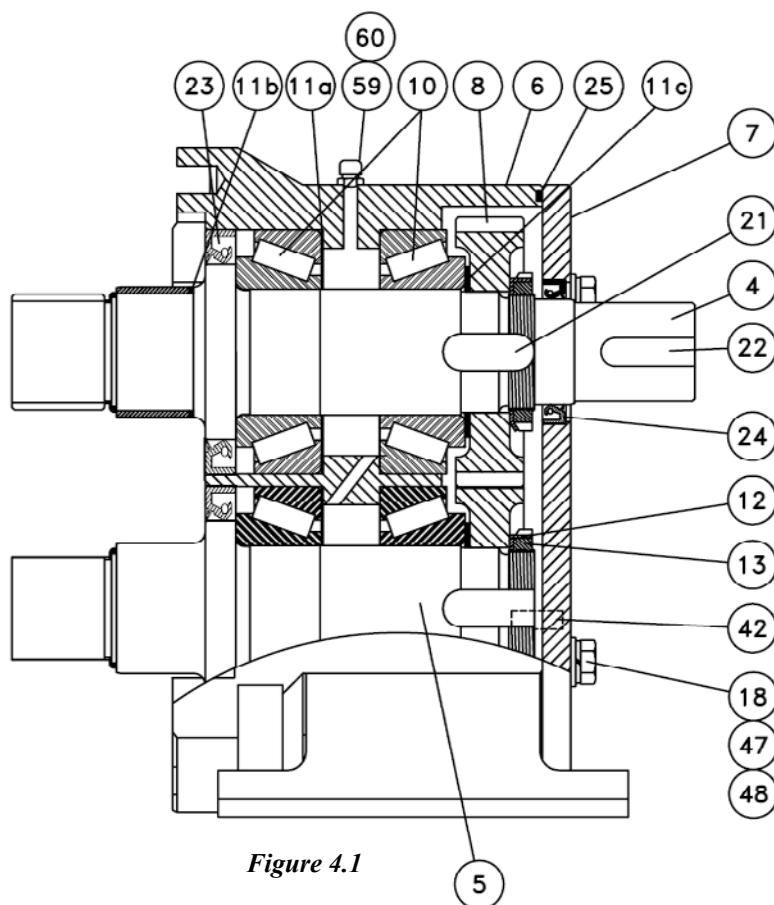

Figure 4.1
Remove the front cover, rotors, housing and shaft seals as described in section 2. Drain oil from the gearbox by removing the drain plug, if available, or by removing the cover (7), PTO drive shown in figure 4.1. Open the tab on the tab washers (12) and remove them and the slotted nuts (13). With a rubber mallet, strike the ends of the shafts where the tab washers were located to loosen the gears (8) and remove them. Be sure not to damage the threads on the shafts. The keys (21) will now be exposed and can be removed with a flat tipped screwdriver. Continue striking the shafts with the rubber mallet to push the shafts and the oil seals (23), which will get damaged and will have to be replaced, out of the gearbox. Each shaft will have one bearing (10) located next to a shoulder. To remove them, if necessary, do so with a hydraulic press or tap with a punch or sleeve on the edge closest to the shoulder. Use caution to prevent damage to the shaft shoulder. Tap the bearing cups (10), in a circular pattern to remove them from the gearbox.